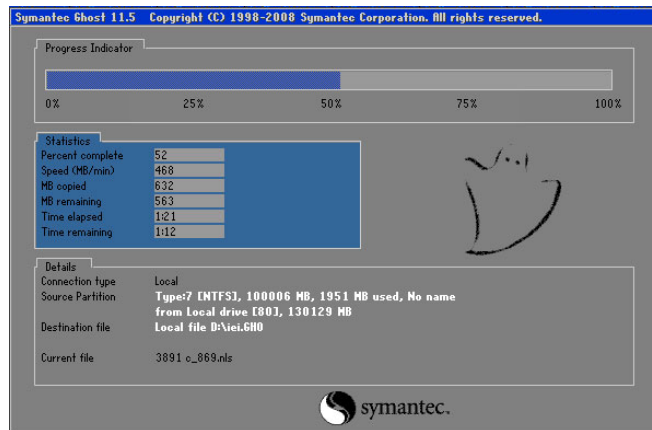

Figure B-28: Image Creation Complete
Step 8: The Symantec Ghost starts to create the factory default image (Figure B-28).